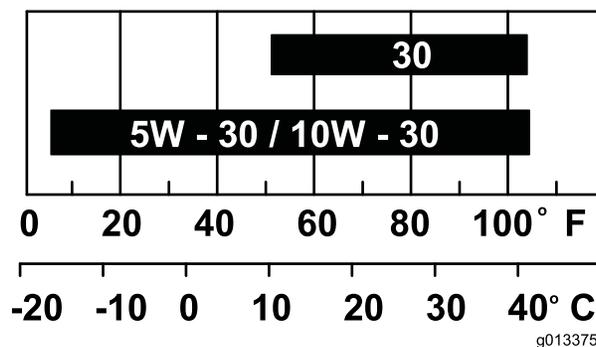

Figure 44
**Note:** Use SAE 10W-30 for general use. You can use the other viscosities shown in the chart when the average temperature in your area is within the indicated range (Figure 44).